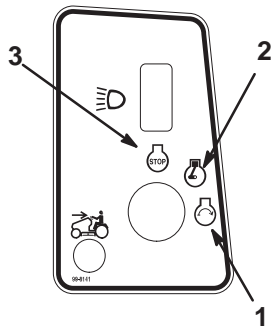

Figure 10
6. Turn the ignition key clockwise and hold it in the Start position (Fig. 10). When the engine starts, release the key.
2. Turn the ignition key to Off (Fig. 10).